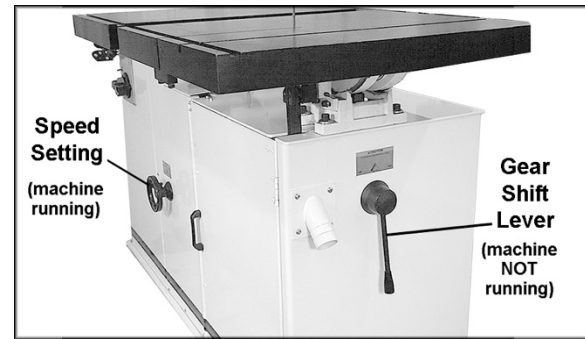

Figure 14
2. While the machine is NOT running, move the gear shift lever to the required speed setting (high or low). See Figure 14.
4. Turn the speed setting handwheel (Figure 14) to the required speed. Turning the handwheel clockwise increases speed. Turning counterclockwise decreases speed.